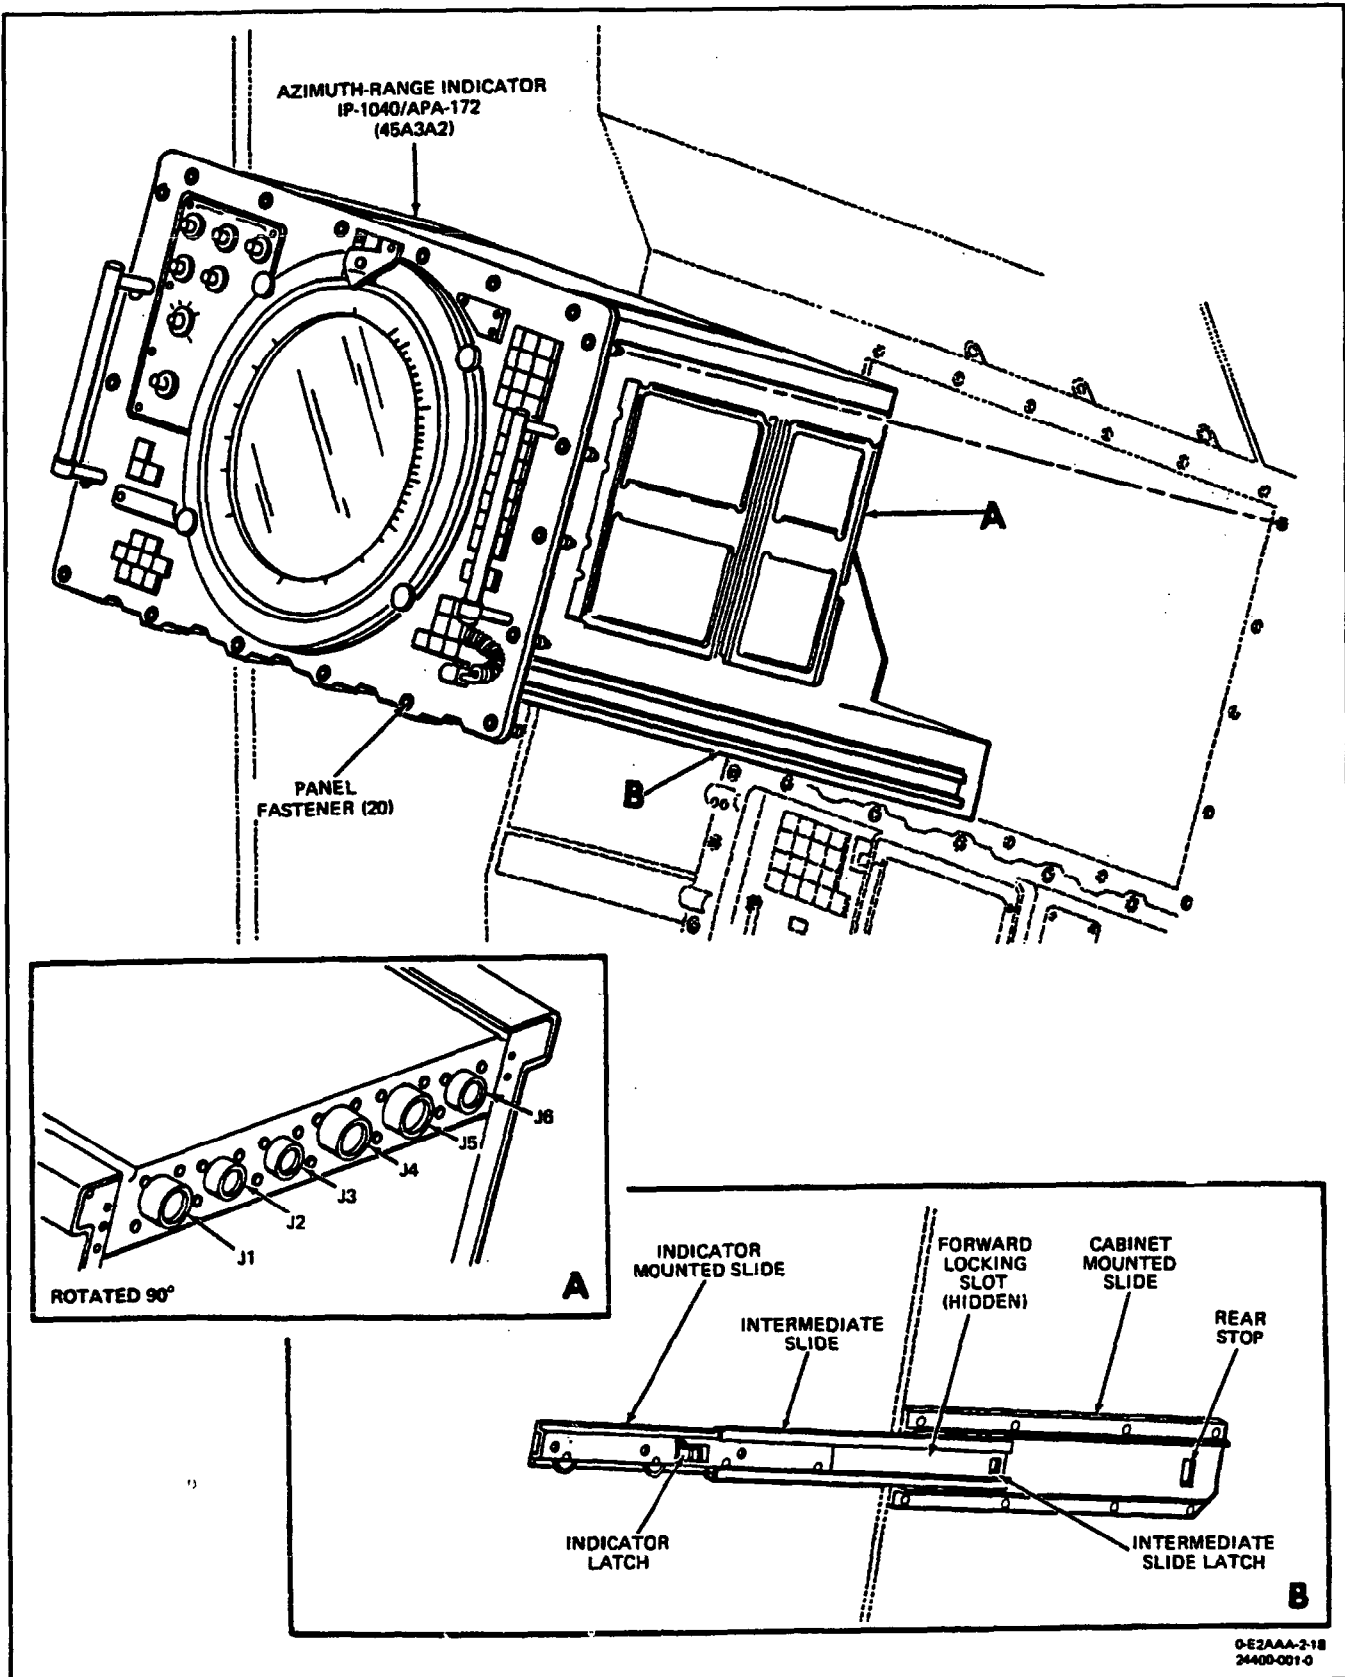

Figure 1. Removal and Installation of Azimuth-Range Indicator IP-1040/APA-172
e. Retract Processor-Display Assembly (2) into ACIS enclosure (SWP244 02).
a. Extend Processor-Display Assembly (29, Figure 1) from ACIS enclosure (SWP244 02).
**3. REMOVAL.** (See figure 1.)
4. **INSTALLATION.** (See figure 1.)